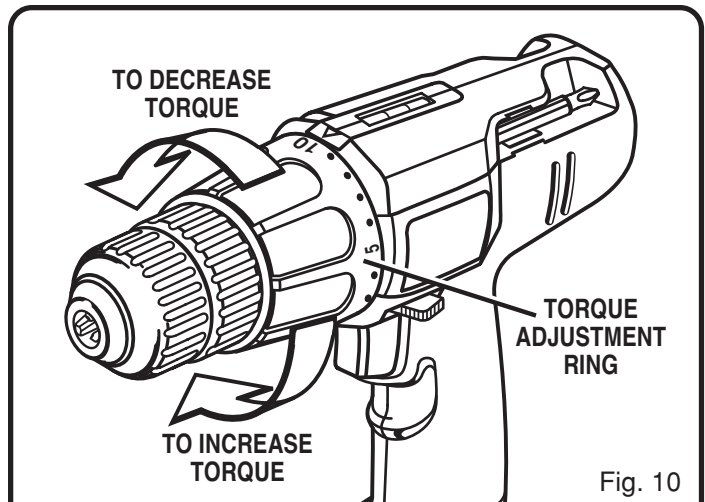

Fig. 10
The torque is adjusted by rotating the torque adjustment ring. See Figure 10. The torque is greater when the torque adjustment ring is set on a higher setting. The torque is less when the torque adjustment ring is set on a lower setting.
- Identify the twenty four torque indicator settings located on the front of your drill. See Figure 10.